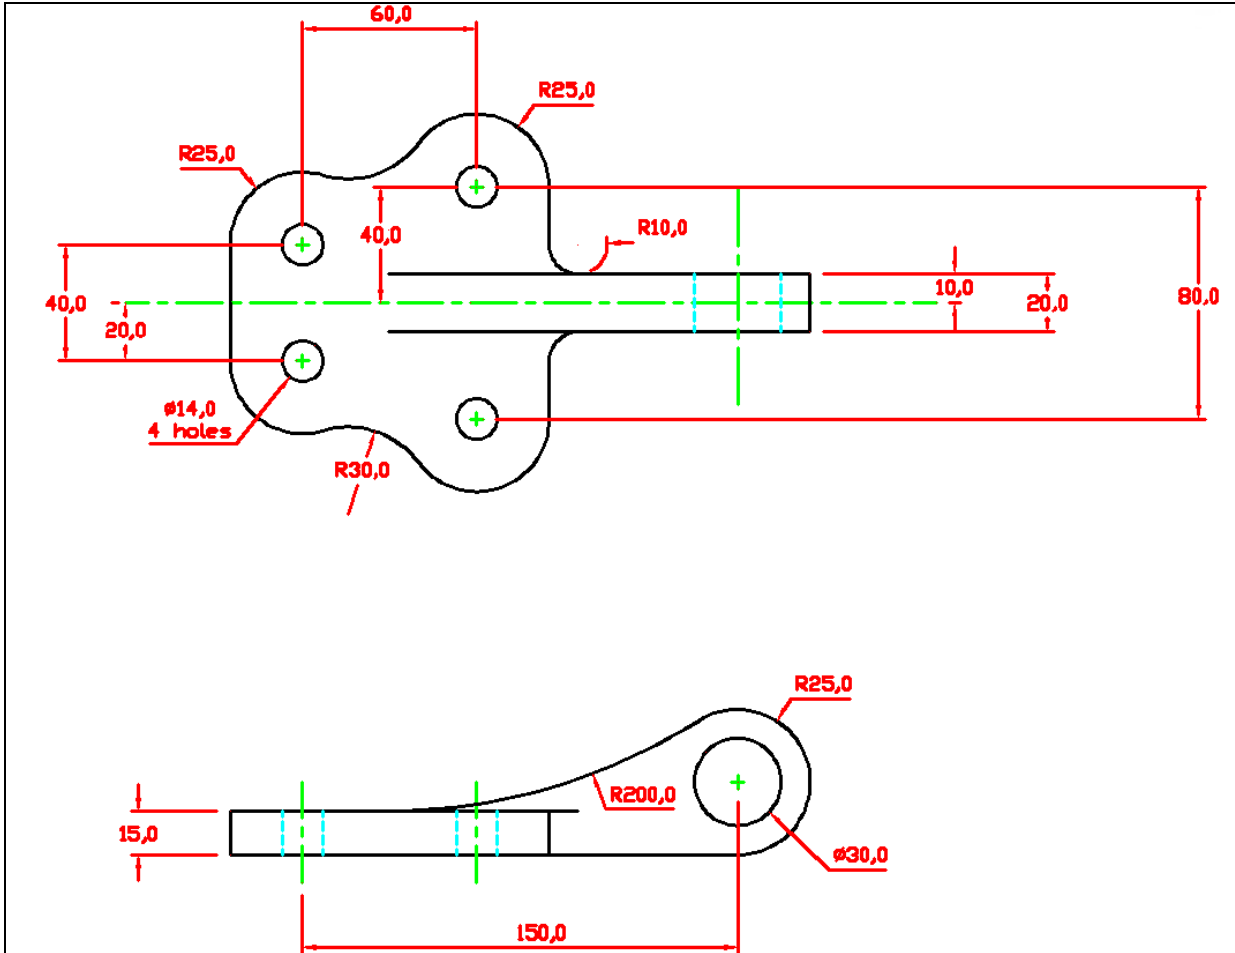

Figure 11.08 – The Bracket Problem with dimensions
* World Class CAD Challenge 02-22 * - Create a New file using the Metric template, and draw the 66 entities shown in Figure 11.08 in 10 minutes. Continue this drill four times, each time completing the drawing in less than 10 minutes to maintain your World Class ranking.